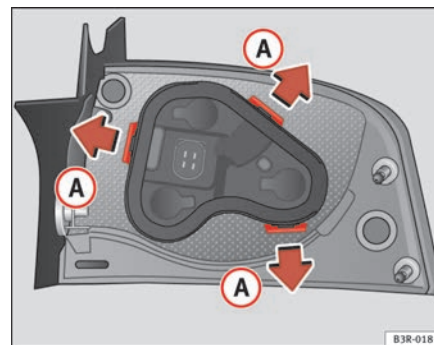

Fig. 210 Retaining tabs on reverse side of rear light
- Release the retaining tabs ⇒ fig. 210 ①.